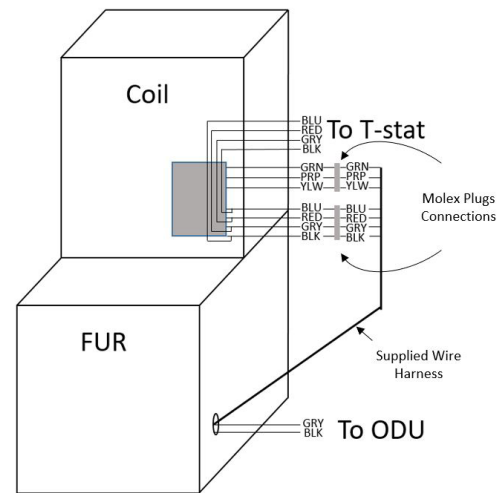

Figure 21
8. View Figure 21 for reference of Wire Harness Setup.
Typical wiring will consist of two wires between the indoor unit and outdoor unit and four wires between the indoor unit and thermostat. Figure 21 shows the required wires are: data lines, 1 and 2; “R” (24 VAC hot) and “C” (24 VAC common).